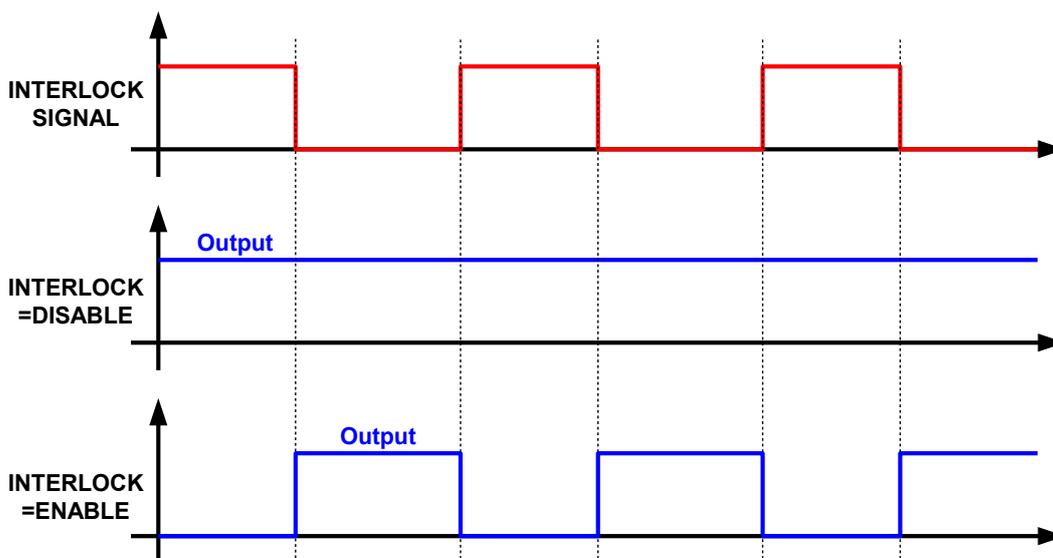

Figure 3-18
4. When the Electronic Load is set to OUTPUT = ON, the detailed action of Safety InterLock is shown in Figure 3-18.